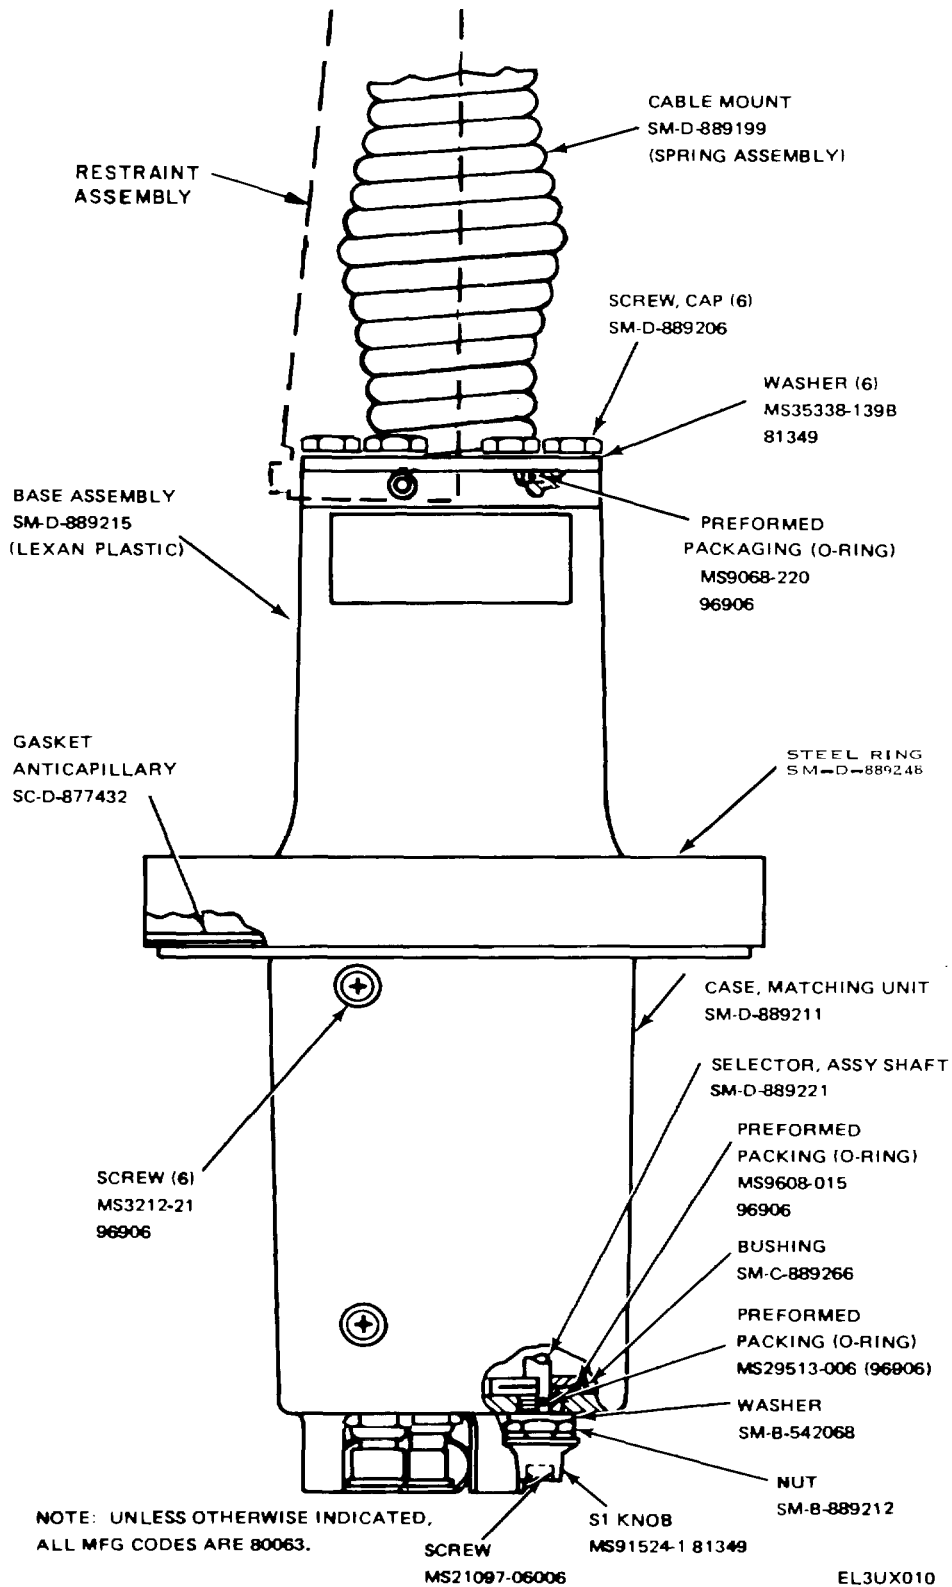

Figure 6-3. Matching Unit-Base, MX-9146/GRC, side view, parts location.
d. *J1 Connector Assembly* (fig. 6-3 and FO-1).
b. *Case Matching [nit (S.M-D-889211)* (fig. 6-3 and 6-4).